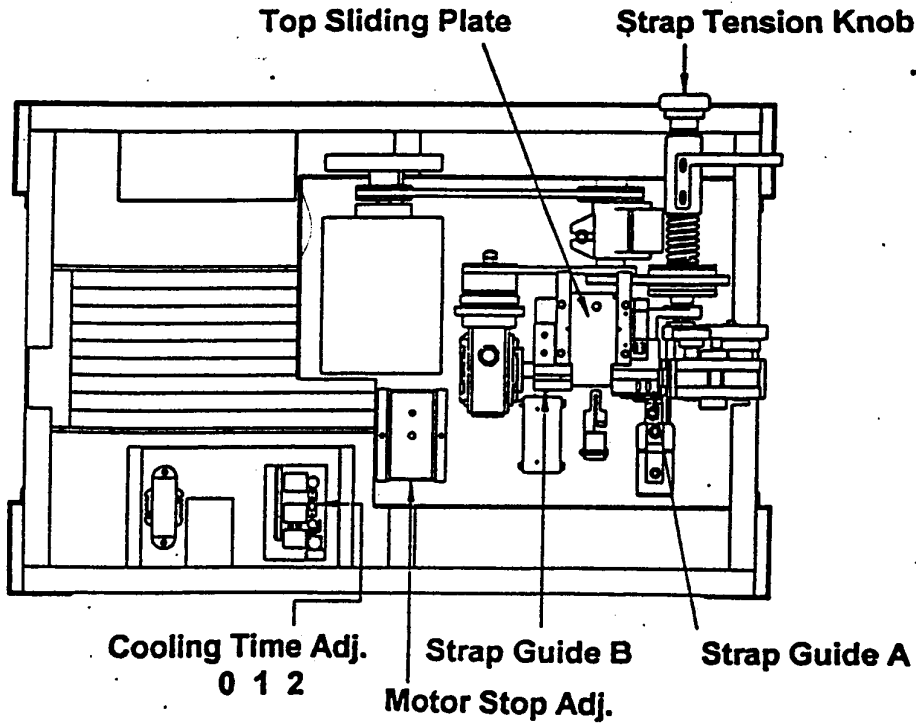

FIGURE 3 MAJOR COMPONENTS TOP VIEW
11. Adjust the strap tension if necessary. (refer to Section 2, Strap Tension, fig. 3)
6. **HEATING COOLING TIME CONTROL:** To push this button (Fig.3) forward to the position "2" to get longer cooling time. To push this button backward to the position "0" to get shorter cooling time. The position "1" is in standard condition.
7. **STRAP TENSION KNOB:** Rotate the knob (Fig.3) clockwise to increase the tension. Counterclockwise to decrease the tension.
8. **STRAP WIDTH ADJUST GUIDES:** Loosen the setscrew on the strap guides and then adjust strap guides according to the width of the strap used. (Fig.3)